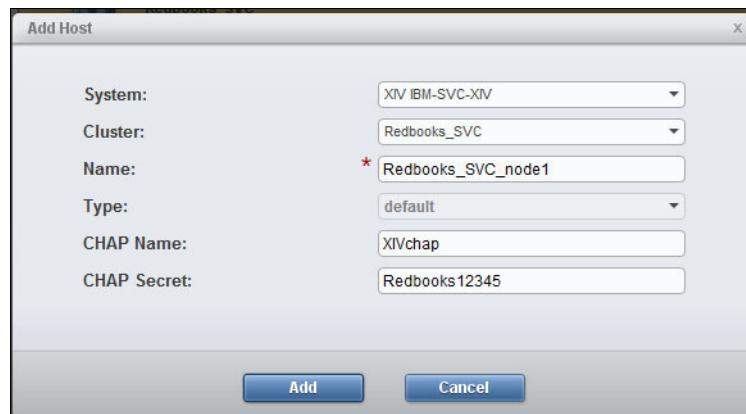

Figure 13-7 Host parameters
5. The Add Host dialog box opens, as shown in Figure 13-7. Enter a name that identifies your SAN Volume Controller or IBM Storwize node. For the Type, the default option is correct. Enter the CHAP name and the CHAP secret.